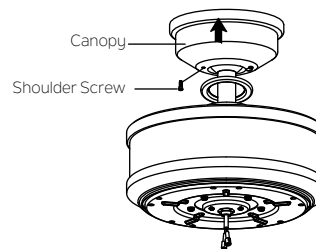

Fig. 15
**Step 2.** Assemble canopy by rotating key slot in canopy over shoulder screw in mounting bracket. Tighten shoulder screw. Fully assemble and tighten second shoulder screw that was previously removed. (Fig. 15)